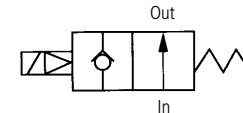

Fig 2
N.O Normally open type (Fig 2)